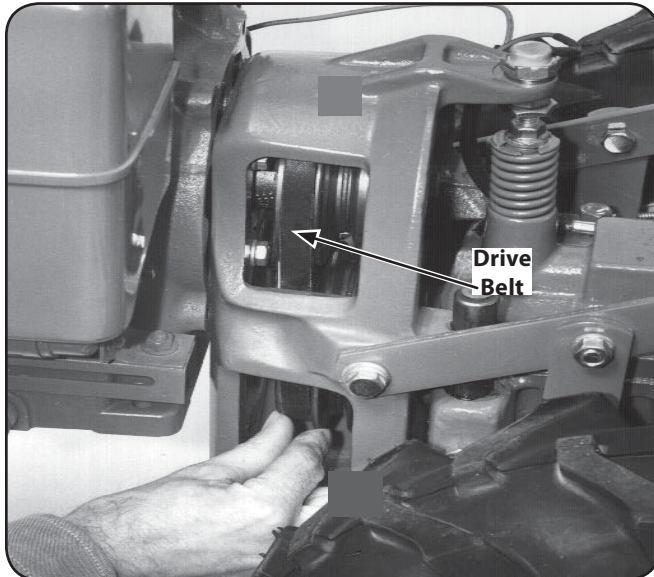

Figure 7-5
12. Move the top half of the belt into the HIGH Range groove, the groove closest to the engine, on the top pulley. See Fig. 7-5.